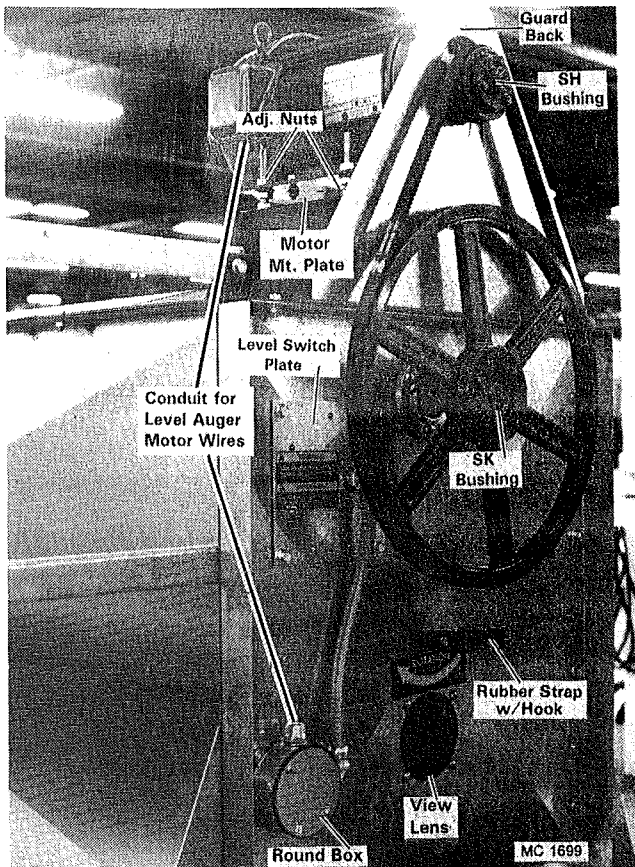

Figure 4 - Level Auger Drive
2. Put four ½-13 x 3½" (12.7 x 89mm) full thread capscrews in the level auger motor mount and lock in place with flanged locknuts. Thread a ½-13 (12.7mm) hex nut onto each capscrew and install the motor mount plate with motor, see Figure 4.
3. Install the level auger guard back as shown in Figure 4. Install a ¼" x ¼" x 2" (6.35 x 6.35 x 51mm) key in the level auger shaft and a ¼" x ¼" x 1¾" (6.35 x 6.35 x 44.5mm) key in the 3HP motor shaft or 5HP motor shaft.
11. Install the rubber strap with hook to the front end panel as shown in Figure 4. Hook the level auger guard over the top of the guard back and secure with the rubber strap and hook.
12. Remove the level auger motor junction box cover and the round junction box cover. Connect the flexible conduit and wire assembly 36" long (91.5cm) to the motor and round box. See Figure 4.
1. Connect the flexible conduit to the bottom of the round junction box on the hopper front end panel. See Figure 4.
- A. Connect the (2) yellow wires imprinted TB24-B → LSW-C together, the (2) yellow wires imprinted LSW-NC- → LASW together.
- B. Connect the (2) black wires together, (2) red wires together and (2) blue wires together (blue used on three phase dryers only). There are (2) green motor ground wires that also must be connected.